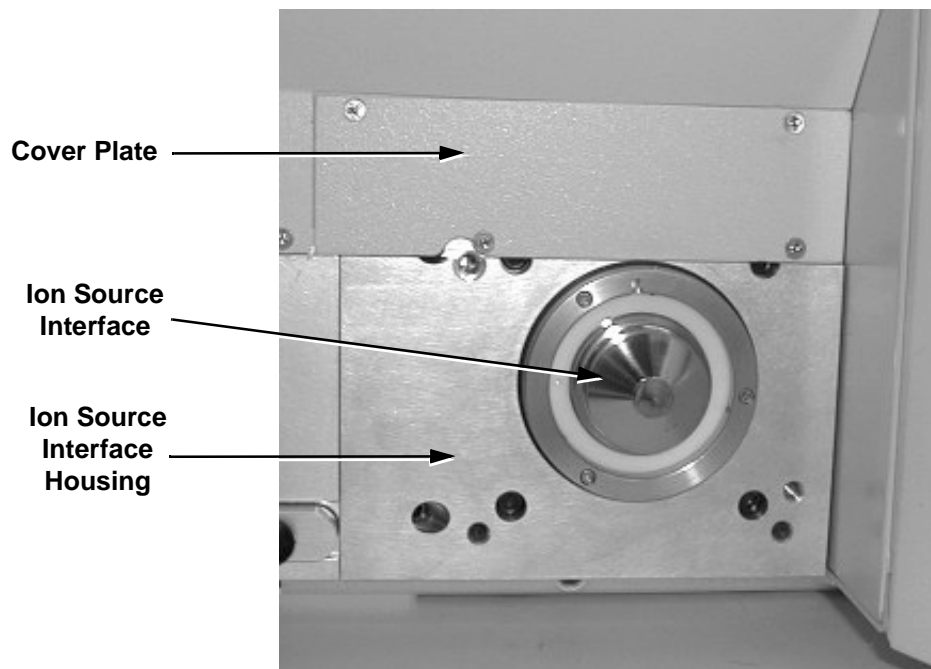

Figure 5-11. Ion source interface, housing, and cover plate
1. Remove the four Phillips-head screws that secure the cover plate to the mass spectrometer. See Figure 5-11. Remove the cover plate.
5. Replace the cover plate above the ion source interface. See Figure 5-11 on page 5-30. Secure it with the four Phillips-head screws.